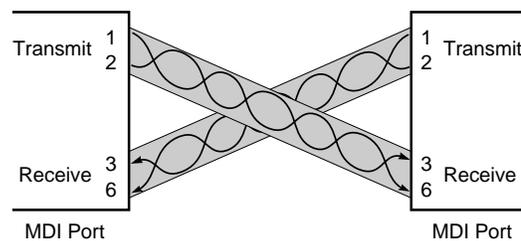

Figure A-7. External Crossover Function
- Externally, with a crossover UTP cable that reverses the transmit and receive wire-pairs at the RJ-45 connector on one end of the UTP cable (see Figure A-7)